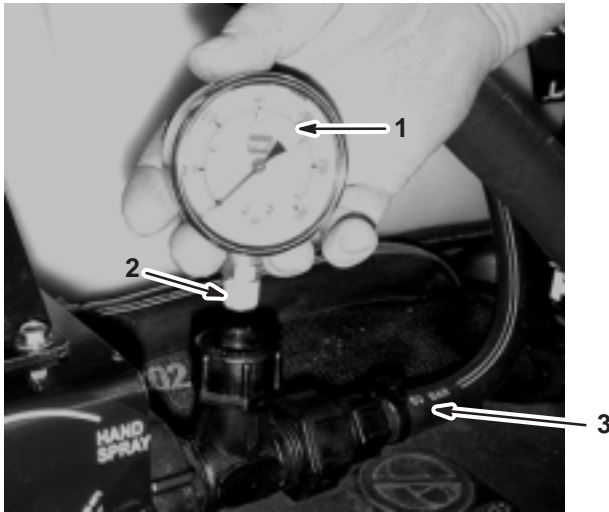

Figure 10
11. Wrap Teflon tape counterclockwise around the threads of the gauge (Fig. 10).
12. Install the pressure gauge into the open port to the right of the control valve (Fig. 10).
13. Connect the threaded fitting on the end of the hose connected to the side of the hose reel to the control valve assembly (Fig. 10).